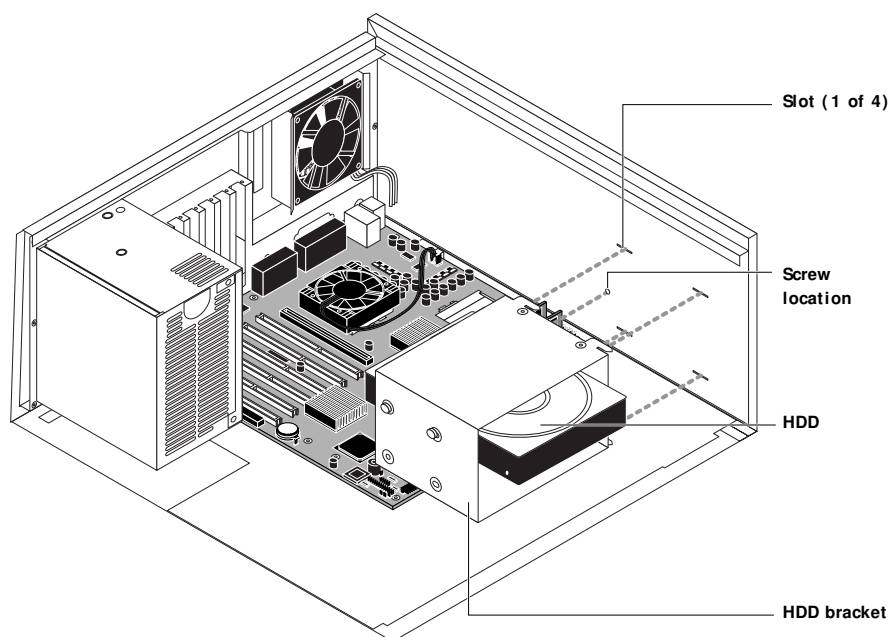

FIGURE 4-26 Removing the HDD and bracket
4. **Insert the hooks of the HDD bracket into the slots on the top of the chassis and slide the bracket toward the front panel to secure it. (See Figure 4-26 on page 4-56.)**